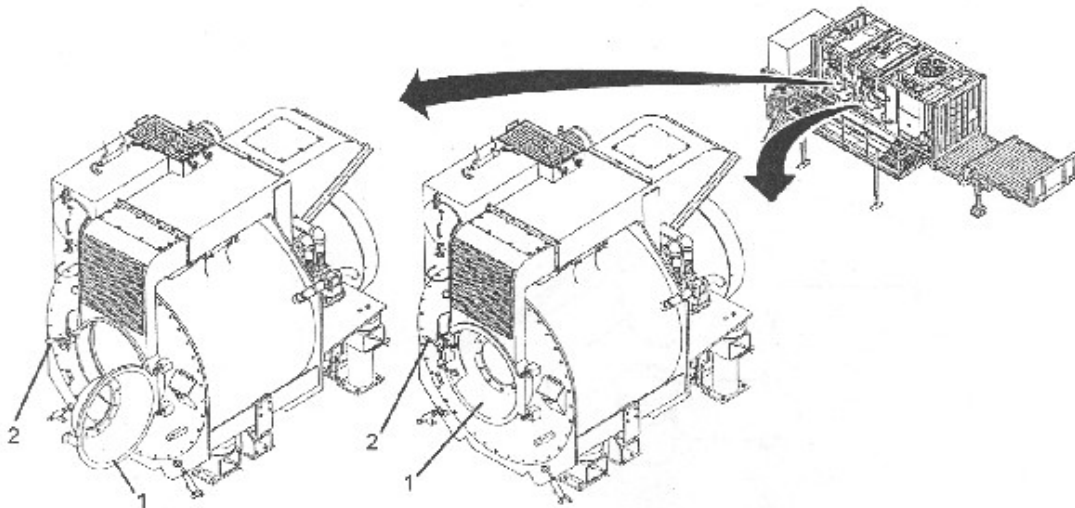

Figure 3-51
- (1) Close both drum doors. (See Figure 3-51)